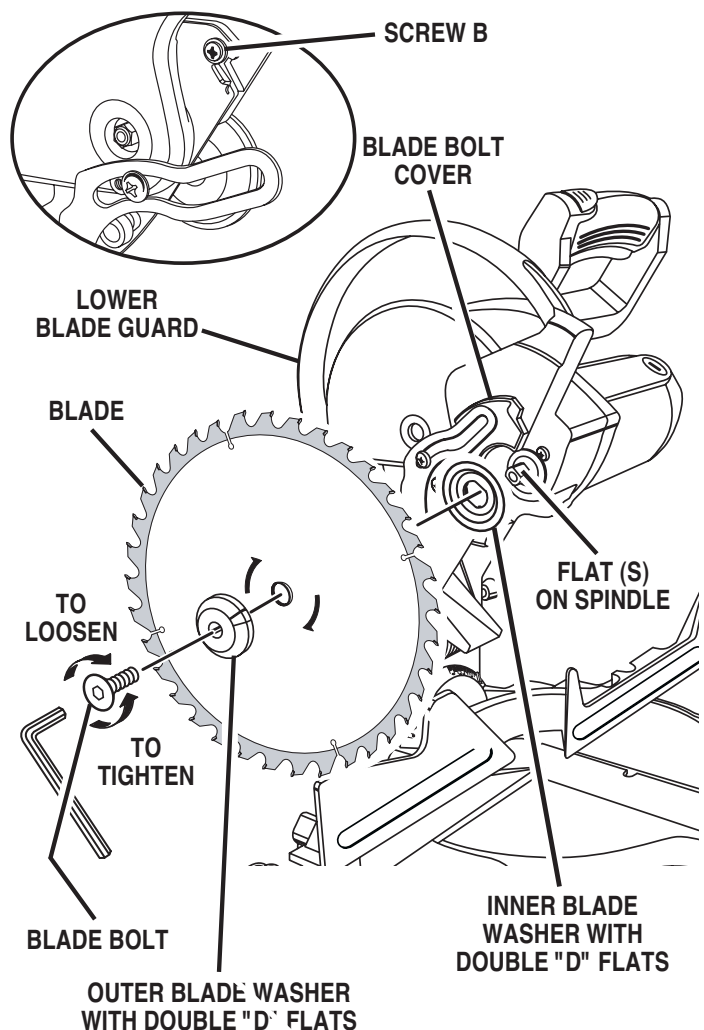

Fig. 12
See Figure 12.
- Using the wrench provided, loosen and remove the blade bolt. See Figure 12.
- Fit saw blade inside lower blade guard and onto spindle. The blade teeth point downward at the front of saw as shown in figure 12.